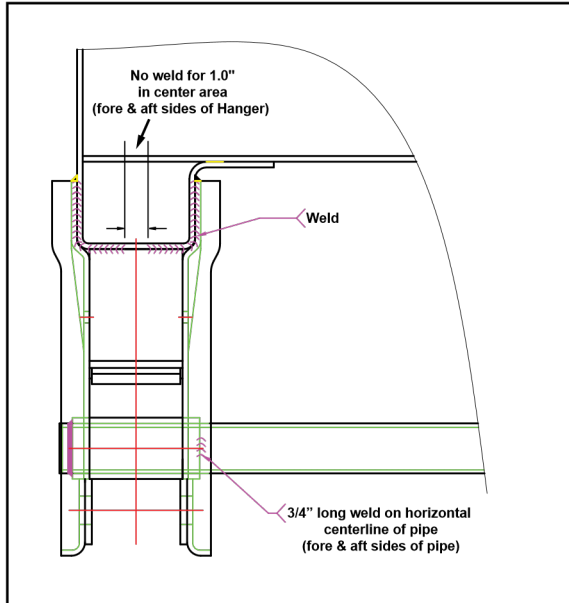

FIGURE 1
4. If used, gussets should be welded to pipes, insides of front and equalizer hangers and to the frame cross-members (see Undermount figures 1, 2, 3 and 4).